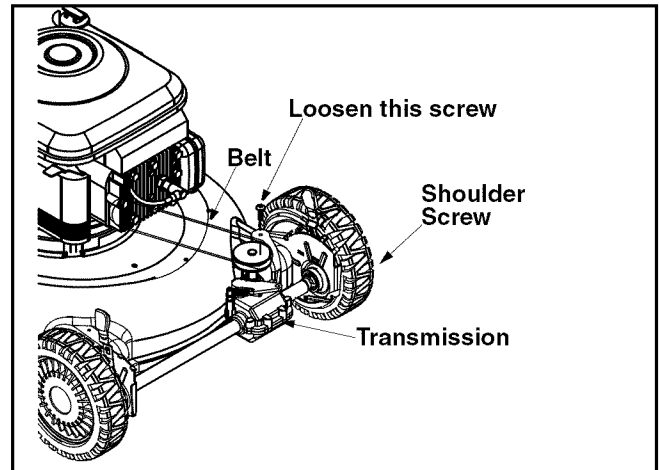

Figure 13
- Using a torque wrench, loosen the screw holding the belt tension spring to the transmission. See Figure 13. Do not remove the screw completely, as you loosen the screw the tension on the belt will be released.